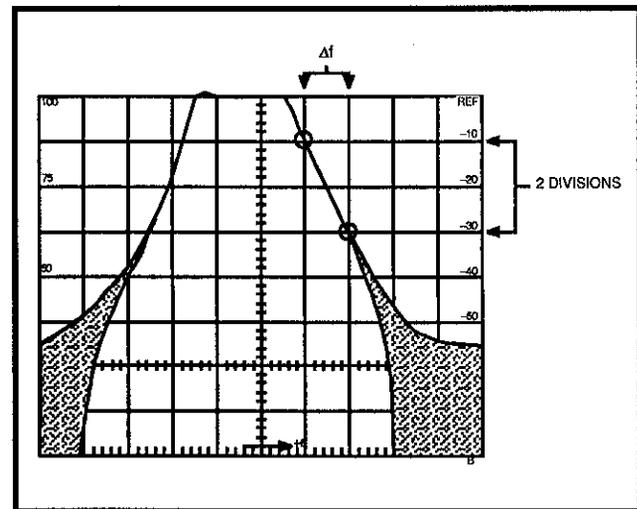

Figure 3-5. Determining vertical scale factor for the FMtest.
c. Tune the signal so that the filter slope can be measured on the most linear portion of the filter response. See Figure 3-5. Make a note of the frequency delta over 2 vertical divisions. The ratio of the frequency delta to 2 divisions then is the vertical scale factor for this measurement, Delta f/2 kHz/Div.